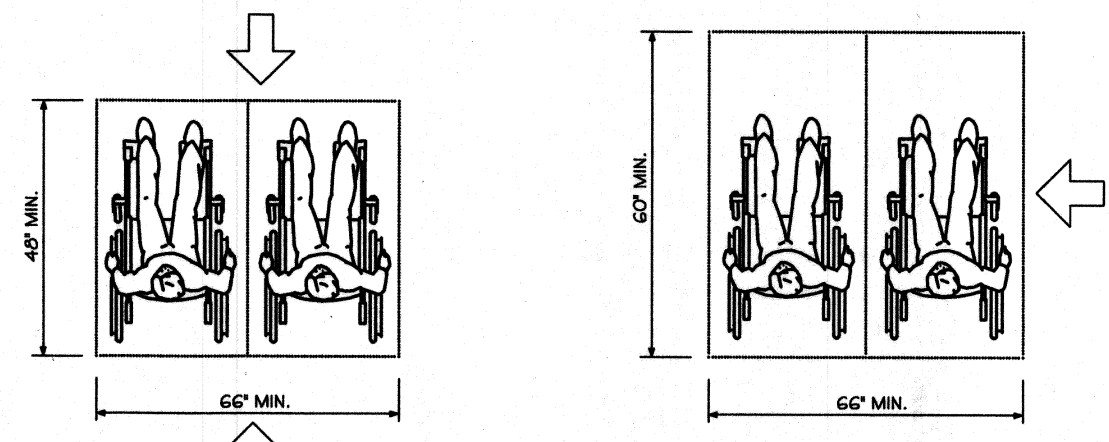

FIG. 46
- 4.33.2 SIZE OF WHEELCHAIR LOCATIONS. EACH WHEELCHAIR LOCATION SHALL PROVIDE MINIMUM CLEAR GROUND OR FLOOR SPACES AS SHOWN IN FIG. 46.